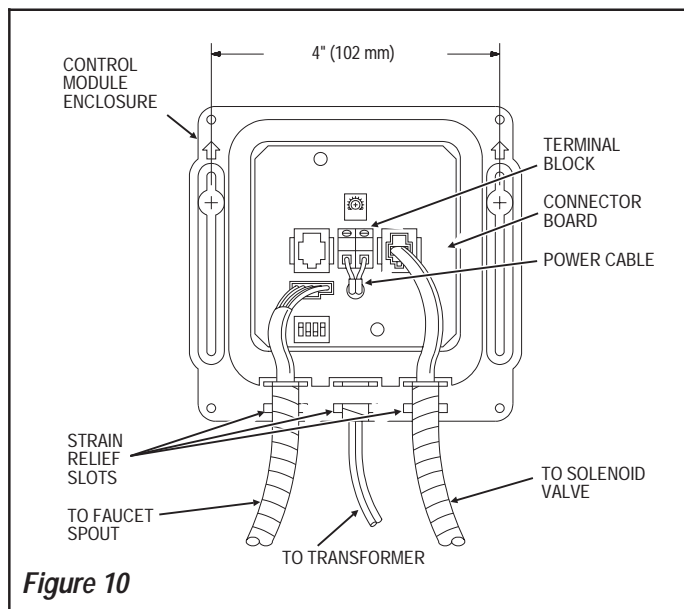

Figure 10
Separate and strip one end of Transformer Power Cable approximately 3/16 to 1/4 inch (5 to 6 mm). Install Transformer Strain Relief 3 inches (76 mm) from stripped end of Power Cable. Squeeze Strain Relief with a pliers and insert Power Cable and Strain Relief into 3/8 inch (10 mm) hole at back of Control Module as shown in Figure 7. Always install right angle Strain Relief so that Power Cable enters the Control Module from the bottom. Connect Power Cable to Terminal Block on Connector Board as shown in Figure 10.
Step 7 — Control Module Connection (Figures 10 thru 12)